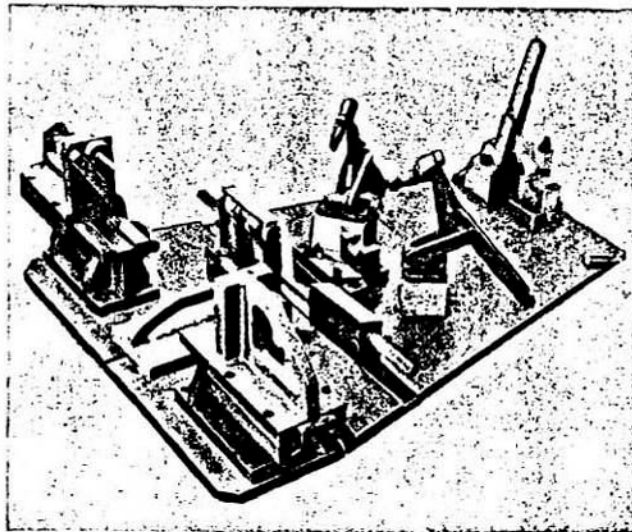
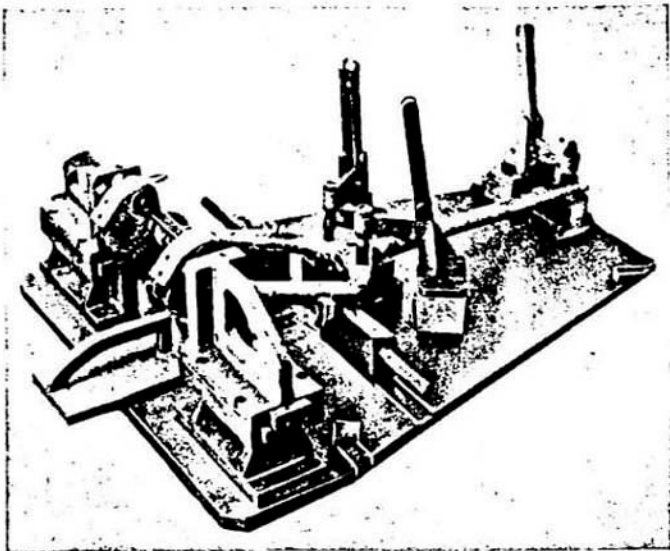

Fig. 55
Fig. 56
a) STRAIGHTENING OF THE FORK Jig No. 59651 Fig. 55. The Jig consists of a base plate on which are fitted three knuckle devices for the locking of the fork in place, three slides carrying points for the checking and two sliding blocks which give to the fork a further means of retention during the actual straightening. To carry out the dimensional check of the fork this should be locked in the Jig, see Fig. 56. The fork can be accepted as dimensionally correct when: